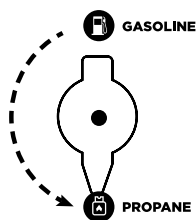

Figure 16 - Fuel Selector - Propane
- Switch fuel selector on control panel to **Propane** (see Figure 16 below).